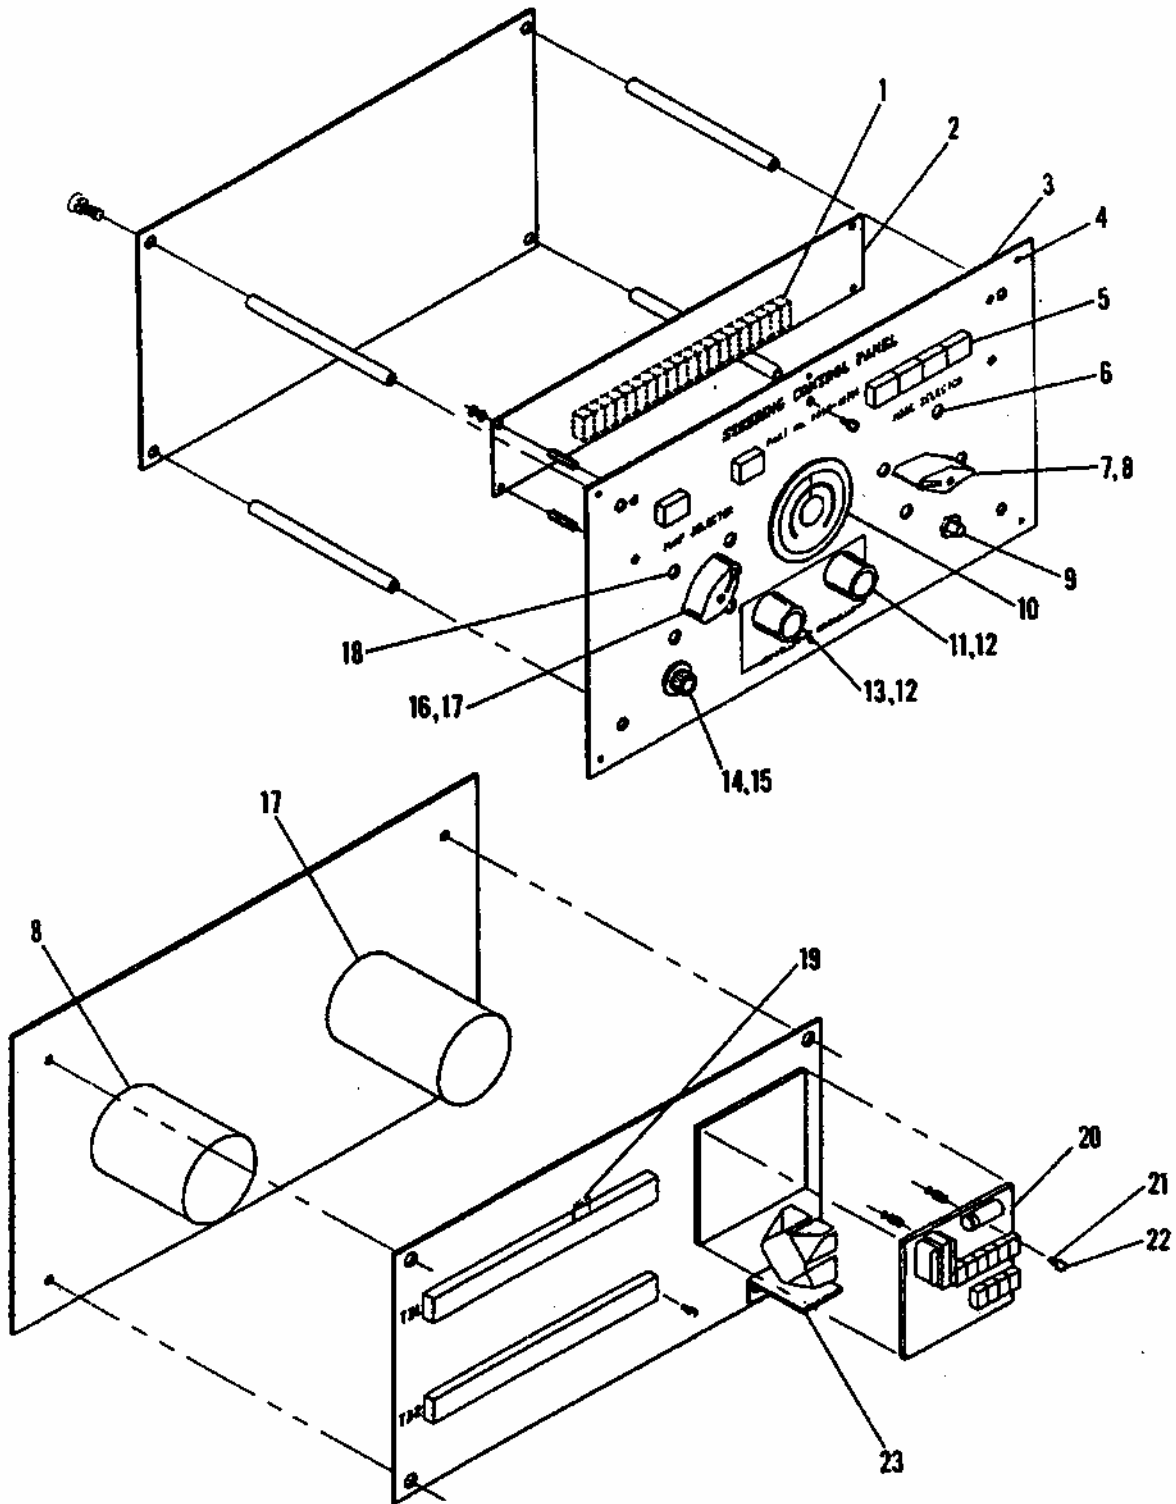

Figure 3-102.1 Steering Control Panel.
- a. Connect electrical leads to the following voltage regulator (38), variable resistor (19), rotary switches (16,26), push switches (7,9, 13, and 23), and rudder order indicator (3).
- c. Install steering control panel assembly (1) in pilothouse control console.
- d. Secure with eight round head screws (2).
**3.116.1. Replace/Repair Steering Control Panel (Figure 3-102.1)**